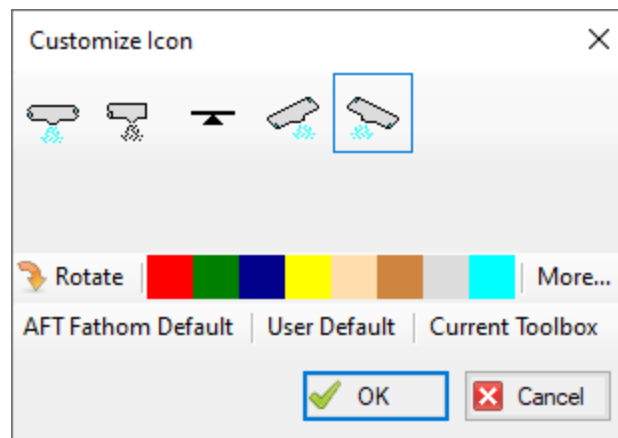

Figure 5: Right click on the junction to open the *Customize Icon* window and select the preferred icon and rotation
4. Right click on J1 and select Customize Icon. Select the icon shown in Figure 5.